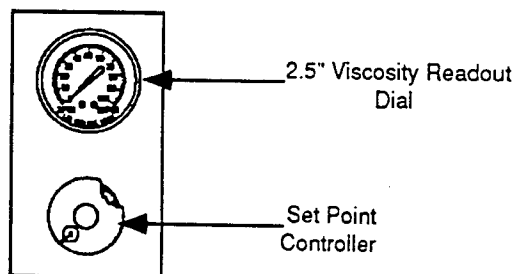

Figure 12: VTA120 Controller Front Panel
- 8) Place the set point controller knob (ref. Figure 12) to its maximum "clockwise" position (i.e. manual). This will allow monitoring of the viscosity during the process start up stabilization period.